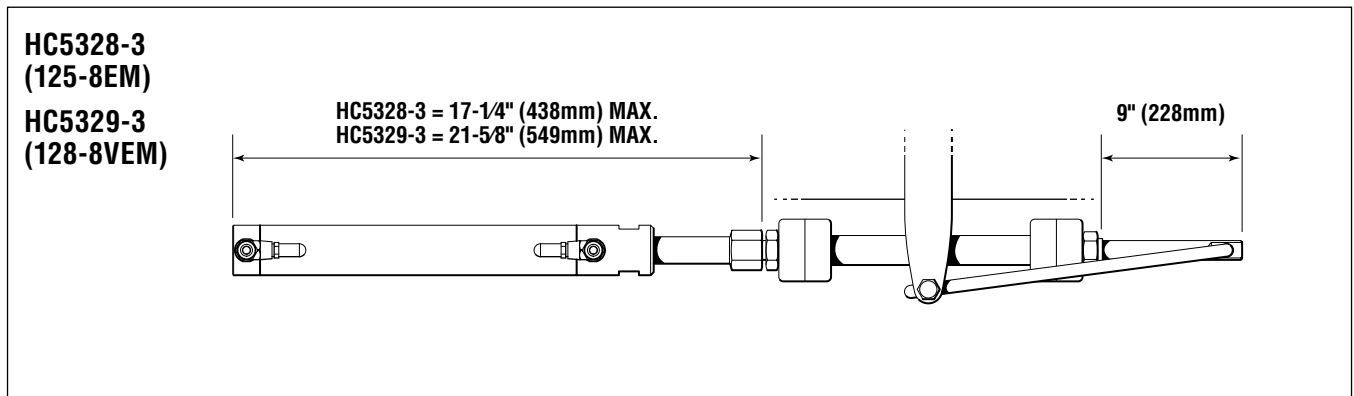
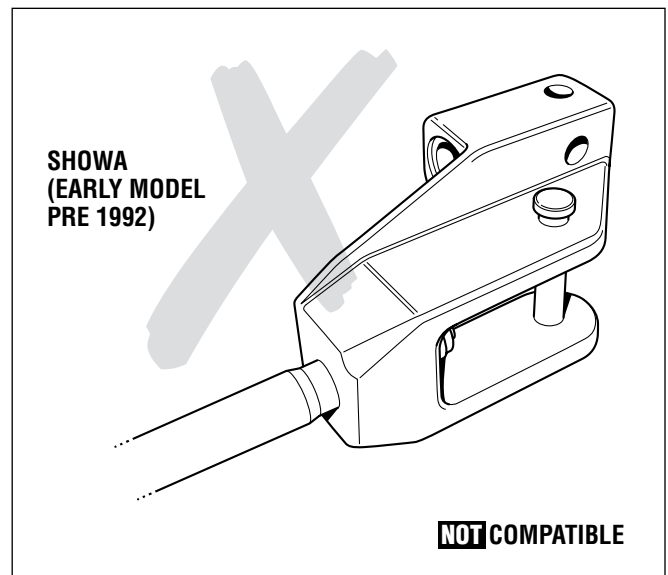

Figure 10. HC5328-3 (125-8EM) and HC5329-3 (128-8VEM), **NOT for use with SeaStar PRO helm(s).**
Figure 15.
*The SeaStar HC5331-3 steering cylinder is NOT compatible with some early model power steering rams. Although the cylinder will still mount to these rams, loss of articulation and possible damage to the steering ram may result. Please identify your power steering cylinder by comparing your clevis bracket to the 4 drawings shown below. The HC5331-3 IS compatible with units identified by figures 10 to 12, it is NOT compatible with the clevis bracket shown in figure 15.*